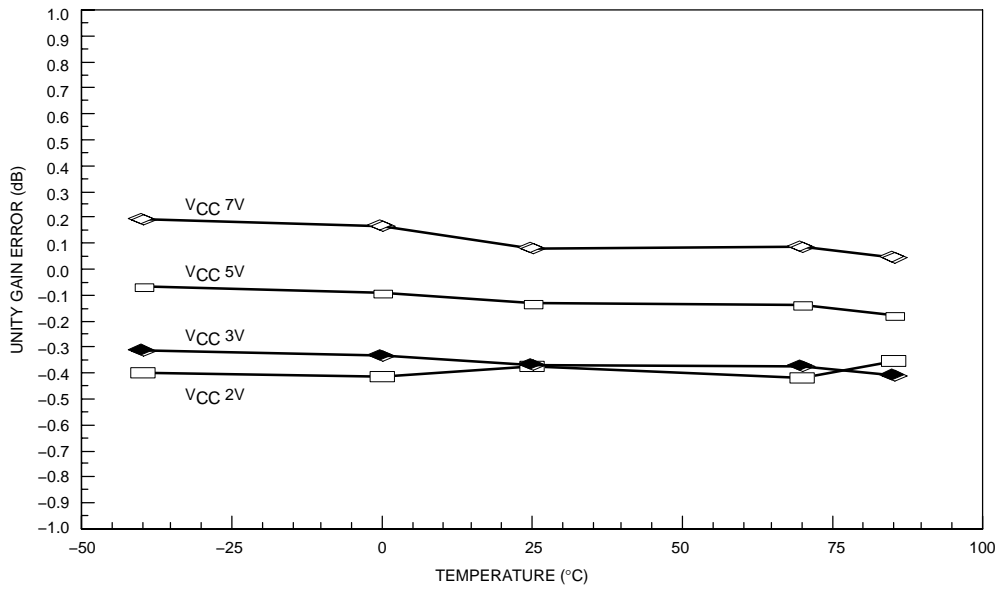

Figure 6. Unity Gain Error vs. Temperature and VCC
1. Operation down to  $V_{CC} = 2.0\text{ V}$  is possible, but performance is reduced. See curves in Figures 6 and 7.